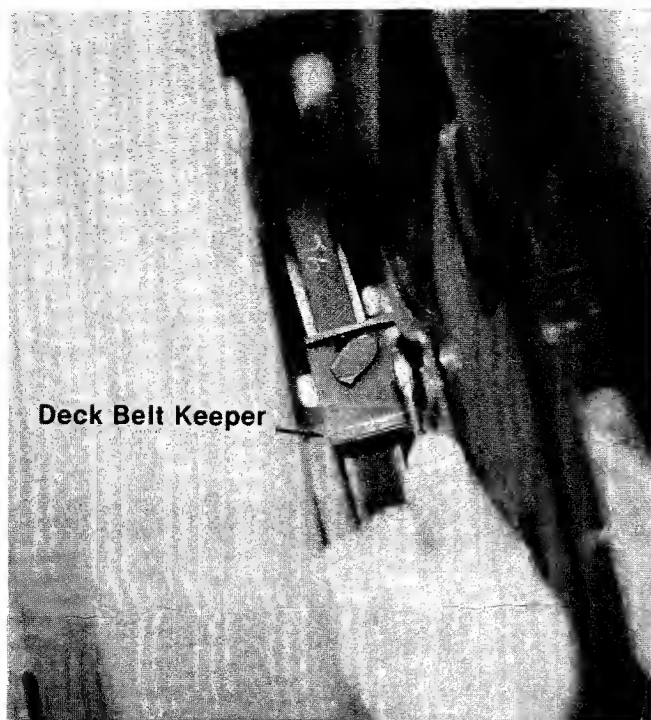

FIGURE 18. REMOVAL OF DECK BELT KEEPERS
- Step 3. Remove two belt keepers at the deck pulley and shoulder bolt. See figures 18 and 19.